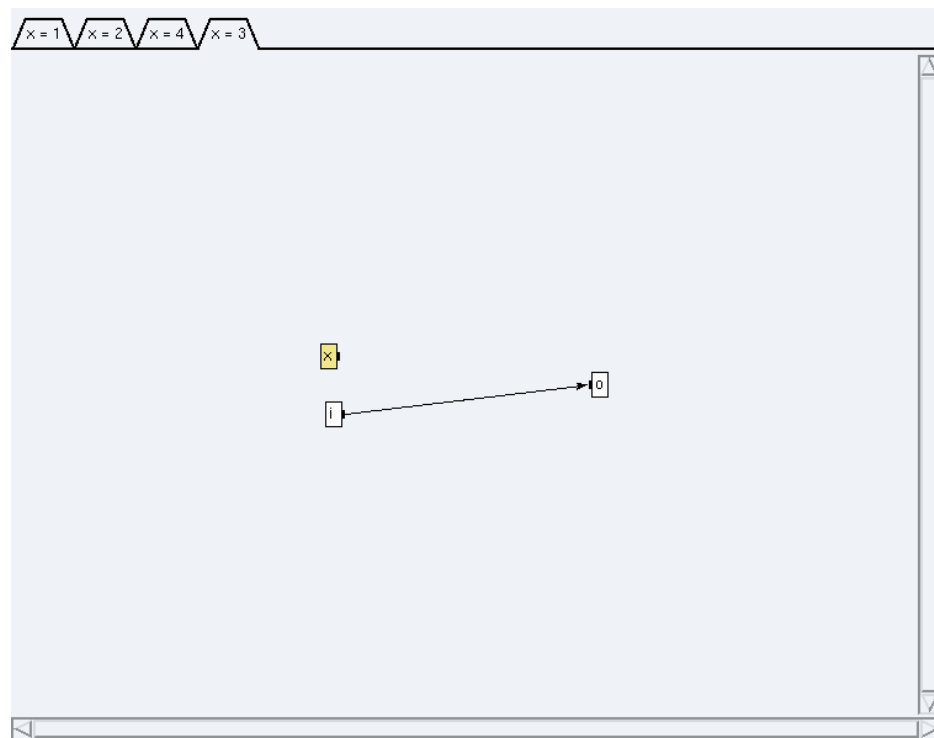

Figure 5.4: Condition $x=3$
- * click on the condition `x=3` (*cf.* figure 5.4) and connect the port `i` to the port `o`,